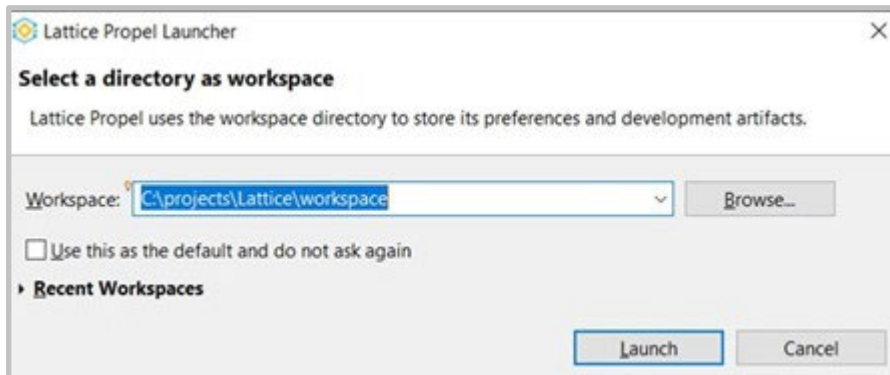

Figure 4: Setting a Workspace Directory
1. Launch Lattice Propel and choose the workspace directory, see Figure 4.